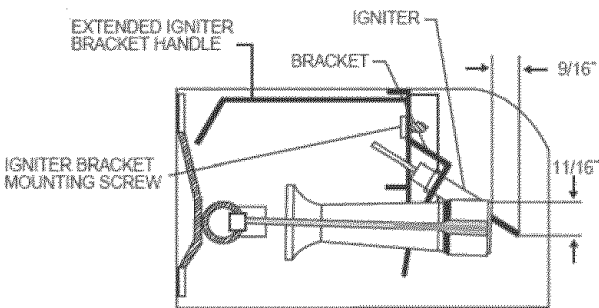

Fig. 7 - Igniter to Burner
1. Reinstall manifold, orifice, and gas-valve assembly in burner box. Ensure manifold seal grommet is installed properly and burners fit over orifices. Verify Igniter to Burner alignment. See Fig. 7 and 8.